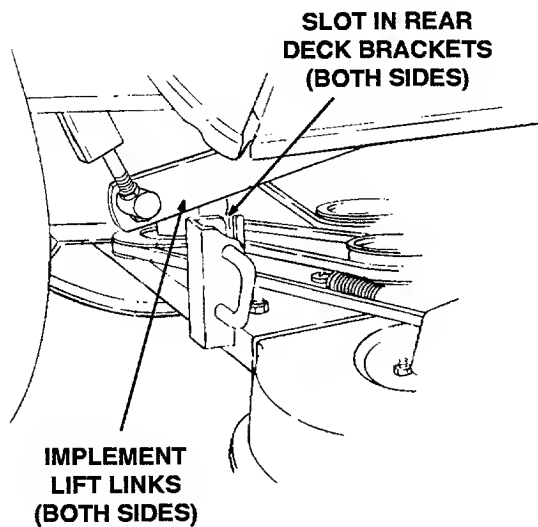

Figure 50
3. Make sure the slot in both rear deck brackets aligns with the implement lift links on each side of the tractor (Refer to Figure 50).